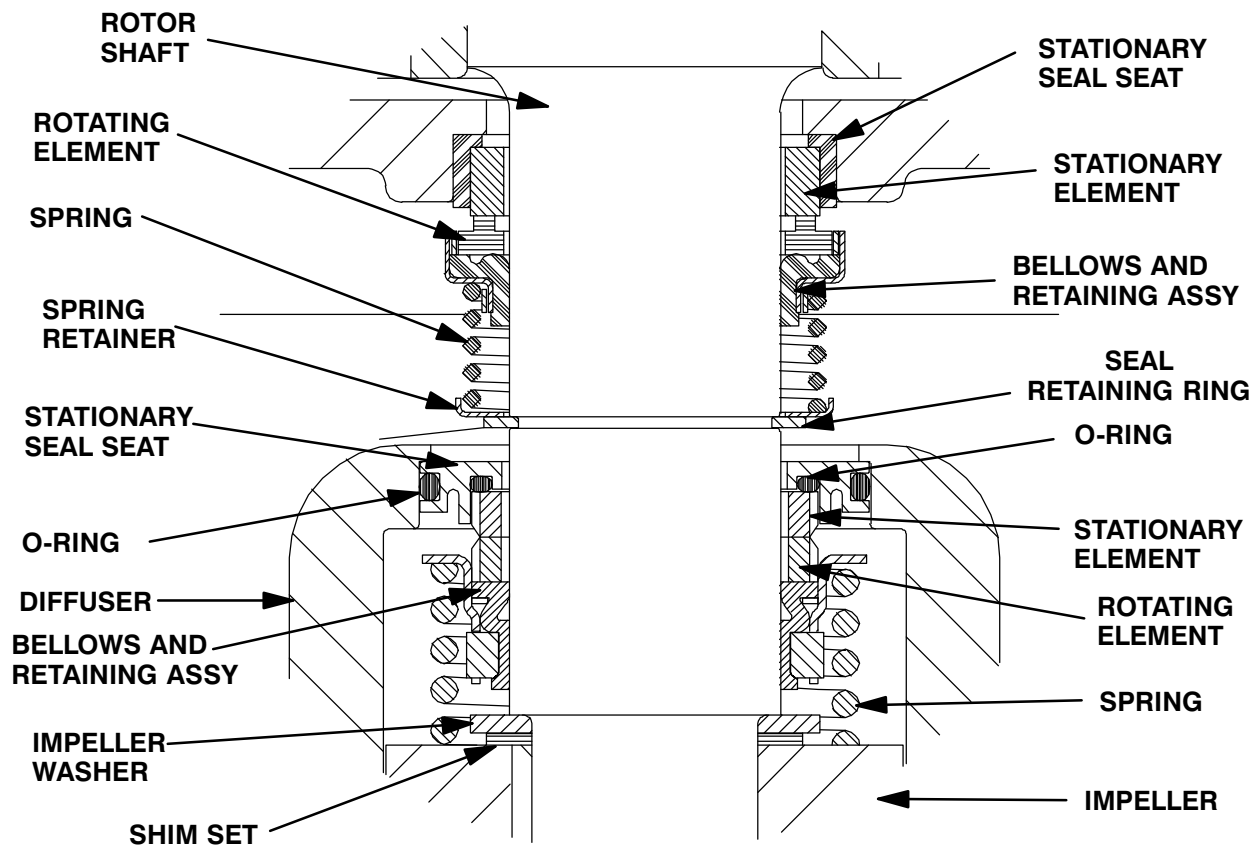

Figure E-3. Upper And Lower Seal Assemblies
Install the shaft seals as illustrated in Figure E-3.
Slide the seal spring over the shaft and bellows retainer, and install the spring retainer. Install the seal retaining ring (14). See Figure E-3 for the proper order of seal assembly.
Slide the seal spring over the shaft and bellows retainer. See Figure E-3 for proper order of seal assembly.